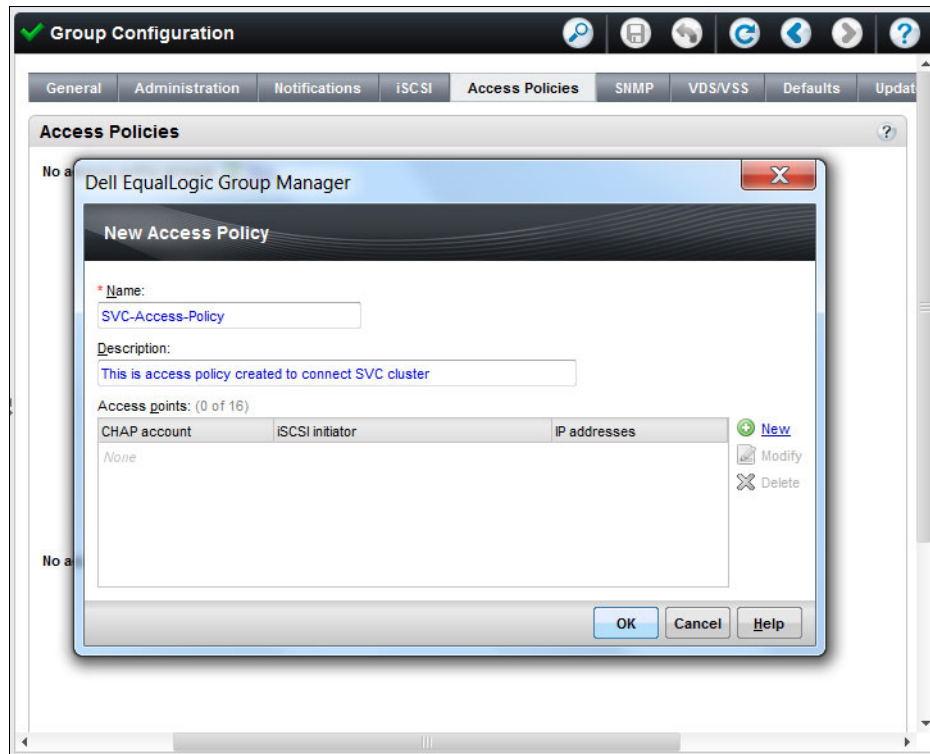

Figure 14-8 Providing an access policy name
4. Provide a policy Name with an optional Description, as shown in Figure 14-8.